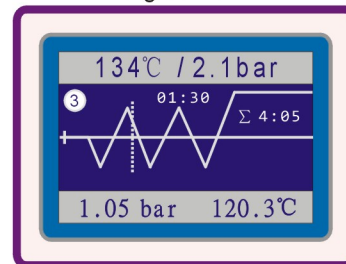

Fig.6.4-4
(4)**First times Exhaust stage:**when the pressure up to about 1.1bar(134°C sterilization program) or about 0.9bar(121°C sterilization program),the control system will open the exhaust-solenoid valve(Ev1) and drain water-solenoid valve(Ev5)for exhausting till pressure down to P=0.0bar.LCD show “01:15”, it is exhaust time countdown. If within 01:15,the pressure in chamber reaches in advance, sterilization program into the second pre-vacuum times stage in advance. (Fig.6.4-4)